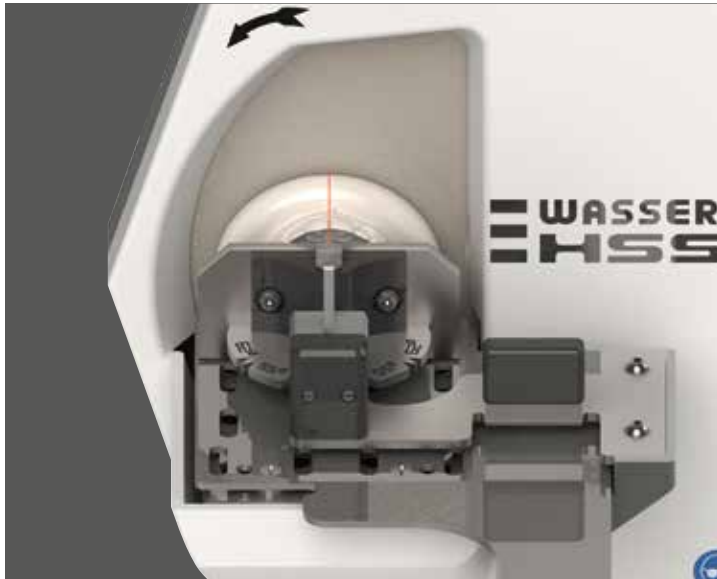

Fig. 9
- Lay the upper jaw model with the occlusion against the limit stop and holding it in this position (Fig. 9) push it against the trimmer disc.